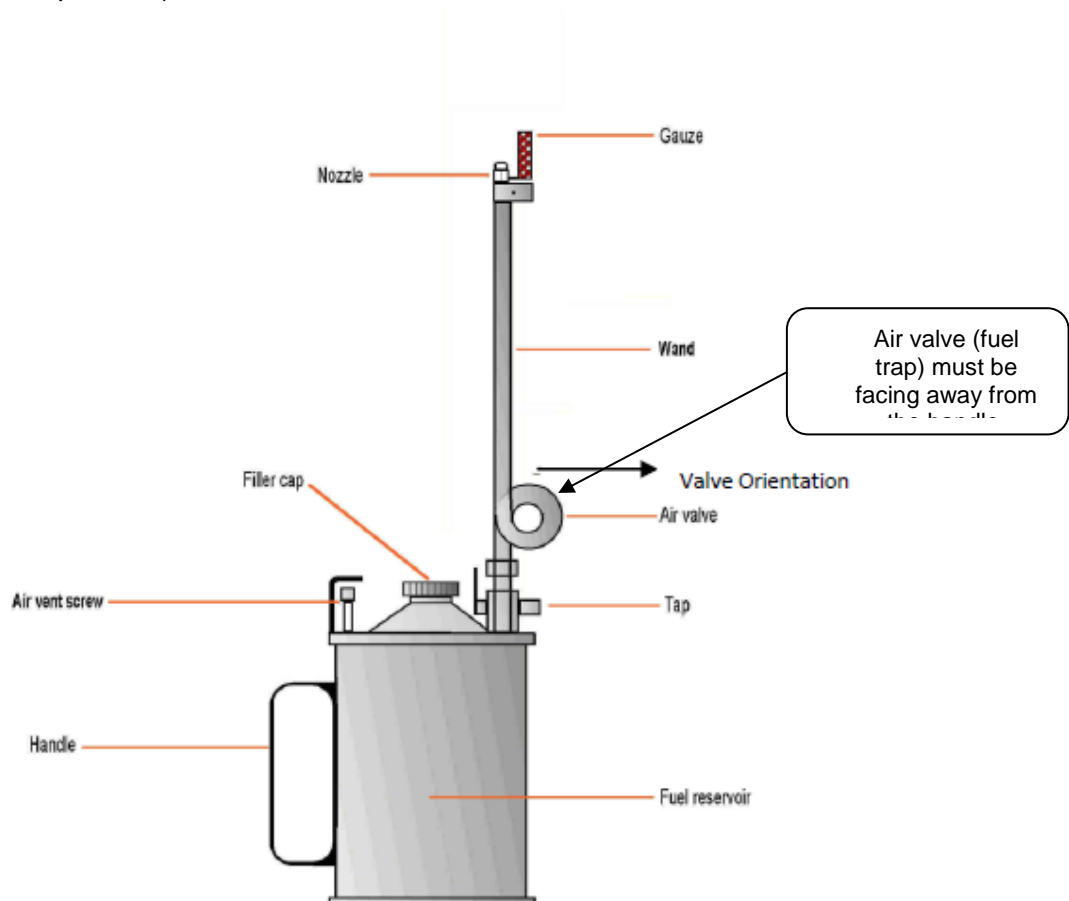

Figure 1 – Drip Torch Components
- the drip torch air valve is oriented away from handle (see Figure 1 – drip torch components)